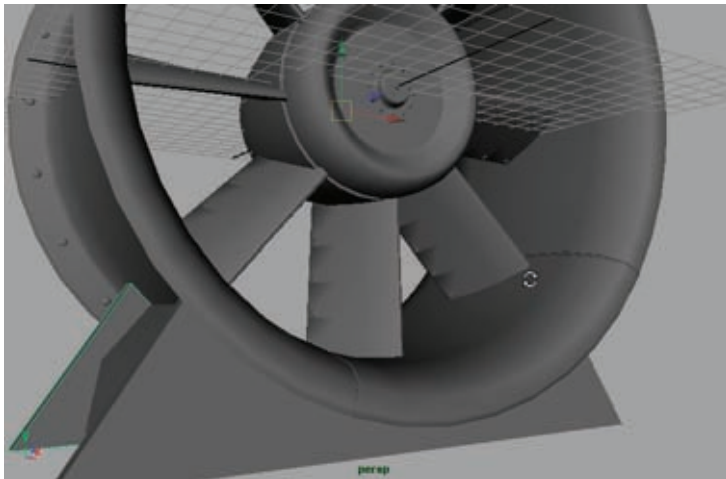

Figure 7.11
5. Duplicate the large cylinder twice, giving you a total of three. In turn, use the cylinders to carve out the unwanted space of each of the three meshes that make up the base using the Difference Boolean command. When you're done, it should look like Figure 7.11.